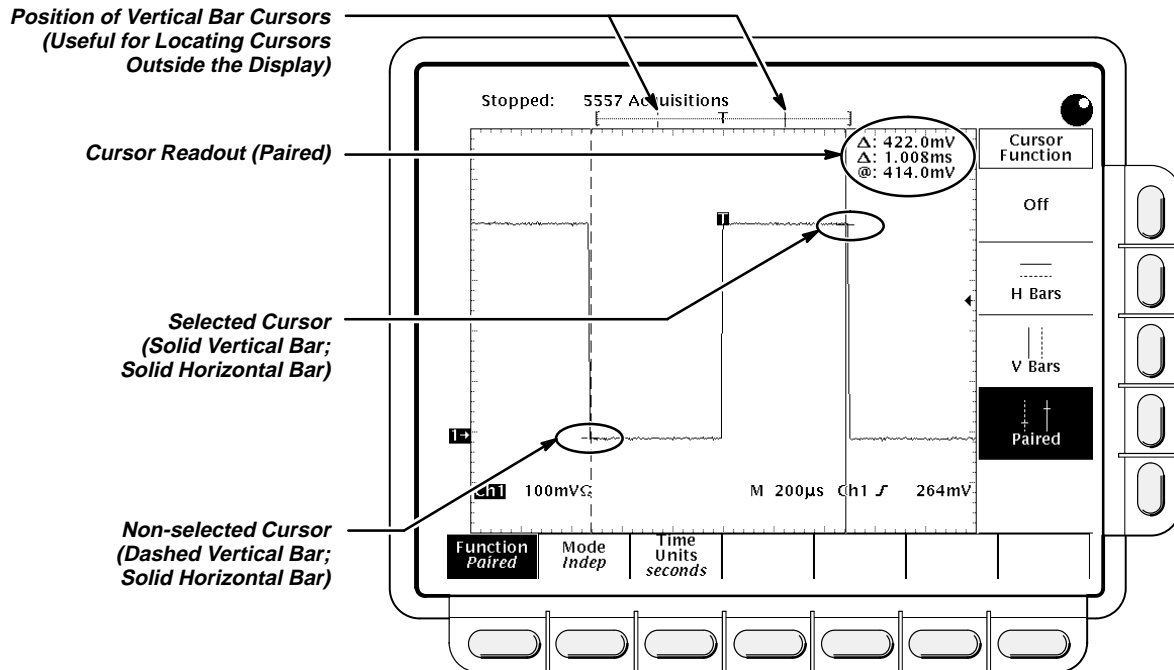

Figure 3-7: Paired Cursor Menu and Readouts
- Paired:** the value after one  $\Delta$  shows the voltage difference between the two short horizontal bars; the other  $\Delta$  shows the time (or frequency) difference between the two long vertical bars. The value after @ shows the voltage at the short horizontal bar of the selected cursor relative to ground (see Figure 3-7).